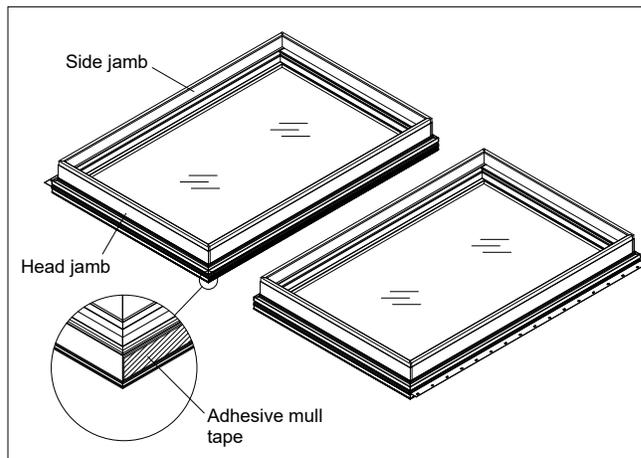

Figure 9
- Lay the lower assembly on a flat surface in the desired mulling configuration (interior facing up). Remove nailing fin and drip cap from head jambs and side jambs that will be mulled together. Apply mull sealing tape the full length of the jamb ensuring that it is located 1/4" (6) from the exterior edge of the Ultrex frame as shown in figure 9.